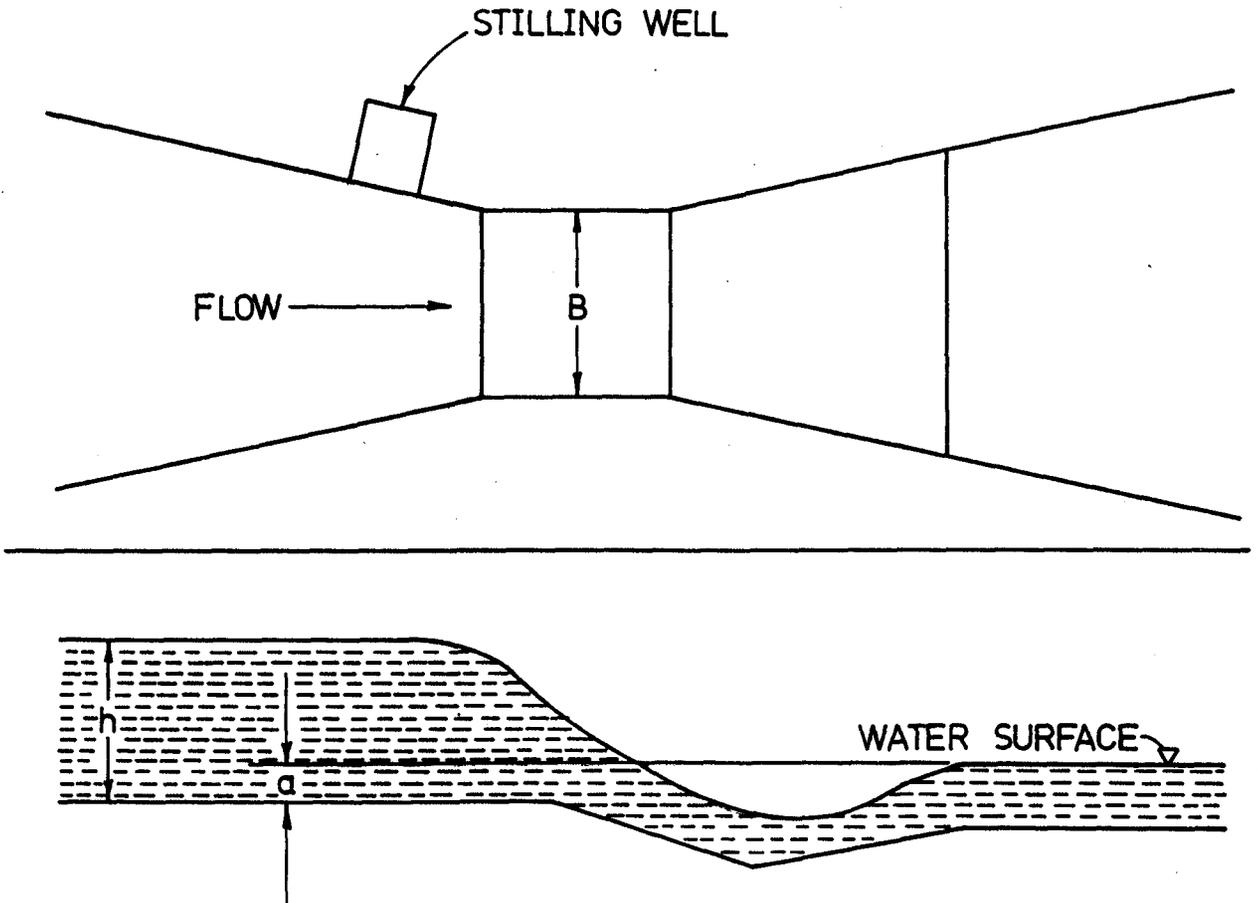

FIGURE 6-1. PARSHALL MEASURING FLUME
b. Parshall flumes. A typical Parshall flume is shown in figure 6-1. This device has many advantages: the loss of head is minimal; it is self-cleaning; flow measurement can be made in open-channel flow; and it has no moving parts to malfunction. The downstream water-surface elevation above the flume approach floor, a, must not exceed 65 percent of water elevation, b, upstream of the flume. The flume will be designed with the narrowest throat practicable for the conditions under consideration. The stilling well shown in figure 6-1 provides a quiescent zone in which to measure the height, h. Flow through a Parshall flume, with a throat width of at least 1 foot but less than 8 feet under free flow conditions, may be estimated by the following formula: